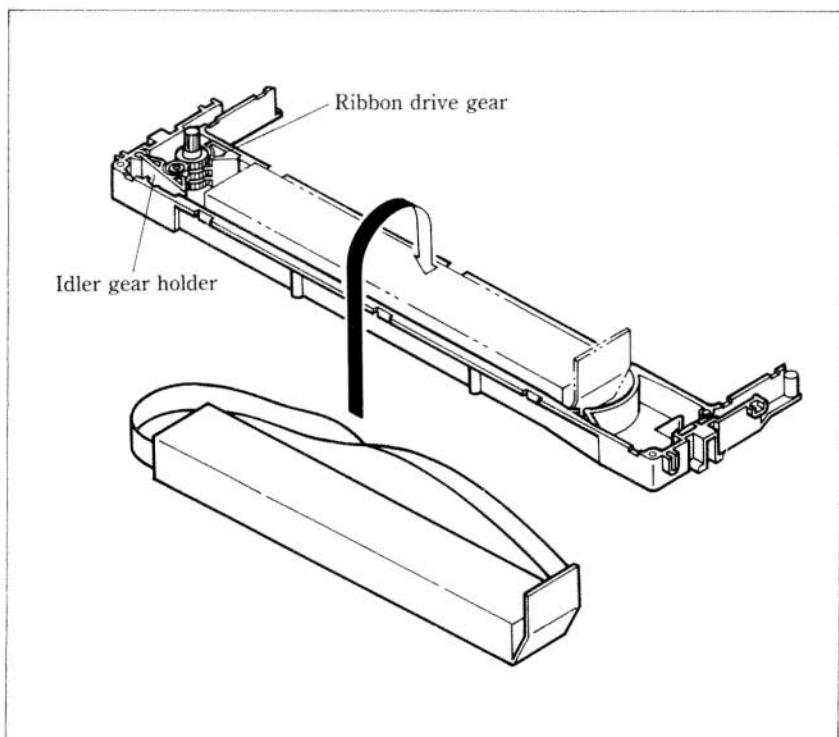

Figure 8-2. Replace the ribbon sub-cassette.
- Press hard against the end of the idler gear holder to make a space between the holder and the ribbon drive gear, and remove the old ribbon and holder. See Figure 8-2.
- Take the new ribbon and holder out of the wrapper, remove the adhesive tape on the joint, and place the ribbon holder into the cassette as shown in Figure 8-2.